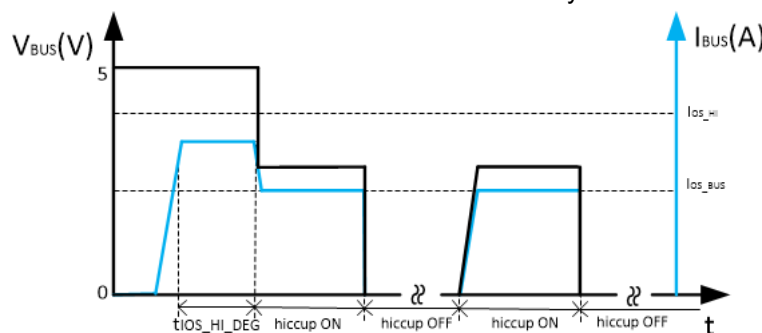

Figure 10-12. BUS Overcurrent Protection
- The second condition is the load current increases above I_{OS_BUS} but below the I_{OS_HI} setting. The device allows the USB port to output this large current for $t_{IOS_HI_DEG}$, without limiting the USB port current to I_{OS_BUS} . After the $t_{IOS_HI_DEG}$ deglitch time, device will limit the output current to I_{OS_BUS} and works in a constant current-limit mode. If the load demands a current greater than I_{OS_BUS} , the USB output voltage decreases to $I_{OS_BUS} \times R_{LOAD}$ for a resistive load, which is shown in Figure 10-12. If the overcurrent limit condition lasts longer than 4.1 ms, the corresponding USB channel enters hiccup mode with 524 ms of off-time and 4.1 ms of on-time. Another USB channel still works normally.